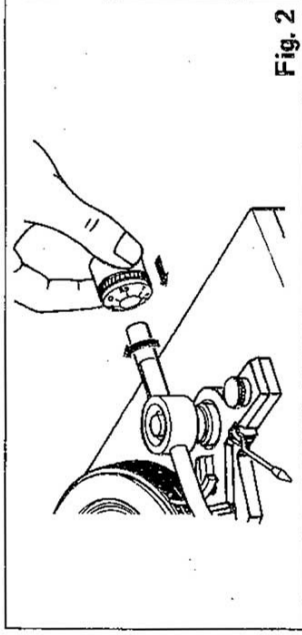

Fig. 2
- (1) Remove the two screws fastening the power transformer.
- (2) Screw the counterweight onto the rear end of the tonearm as in Fig. 2.